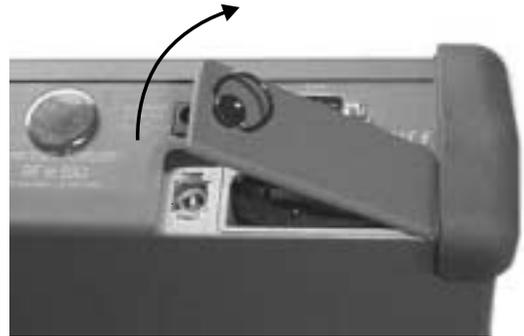

Figure 7. Removing the Battery Access Door
3. Lift the door and remove, as illustrated in Figure 7.